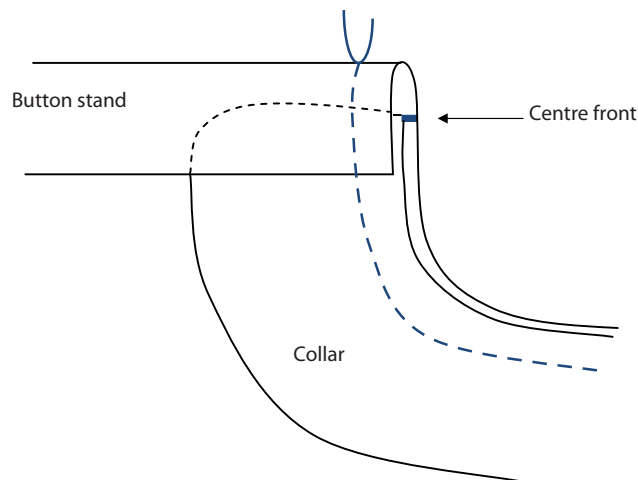

Figure 20
Fold the button stand over the collar and, using the Lockstitch (301), take a 1 cm seam allowance and join the collar onto the neckline, back-tacking at the beginning and end of the seam (see Figures 20 and 21).